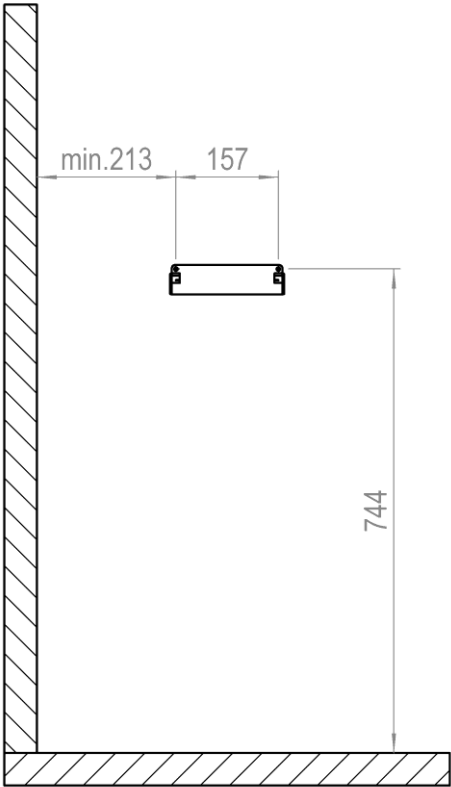

Fig.7
- With due consideration of the minimum distances, screw the wall bracket to the sauna wall using the four 5x35 wood screws supplied (see Fig.7).